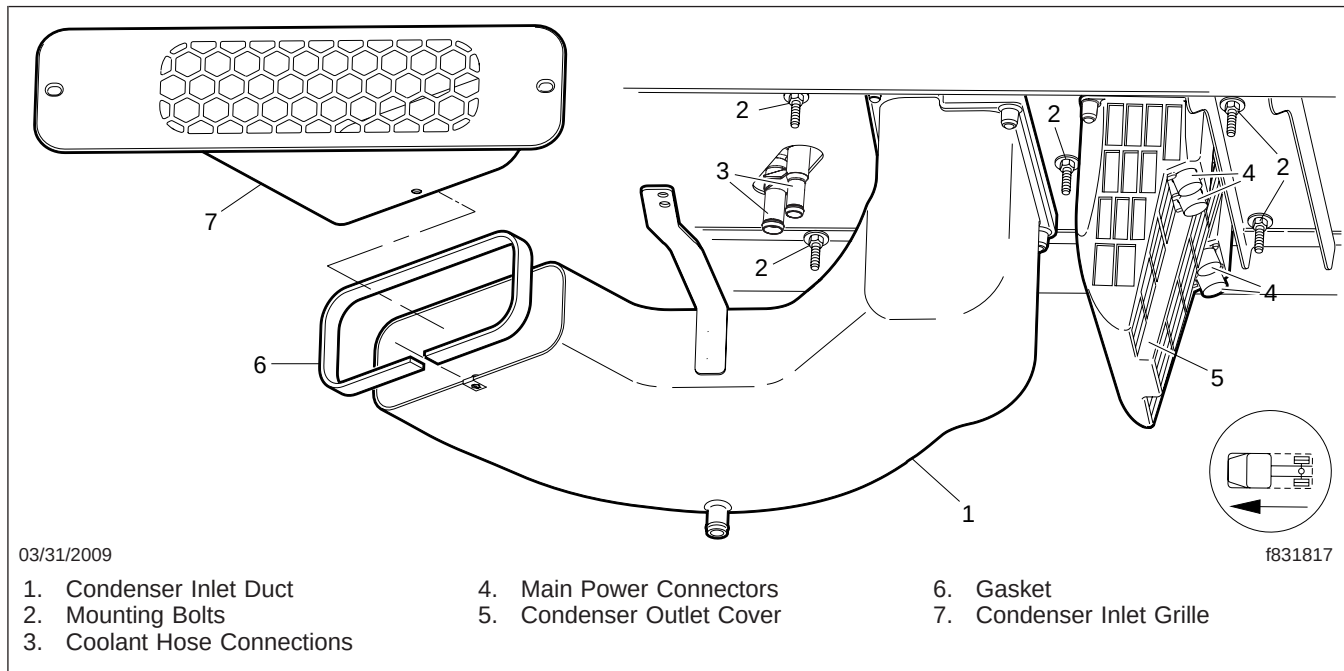

Fig. 2, Under-Cab Components
9. Disconnect the coolant lines from the heater core. See Fig. 2.